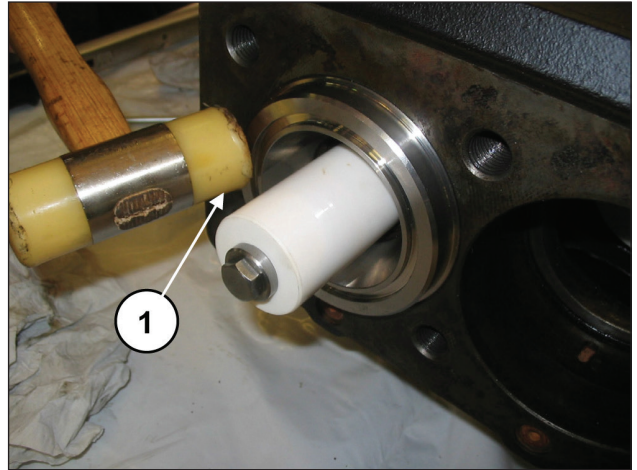

Fig. 151
Ensure that the liner-support block is positioned correctly down to the bottom of the housing (pos. ①, Fig. 151).